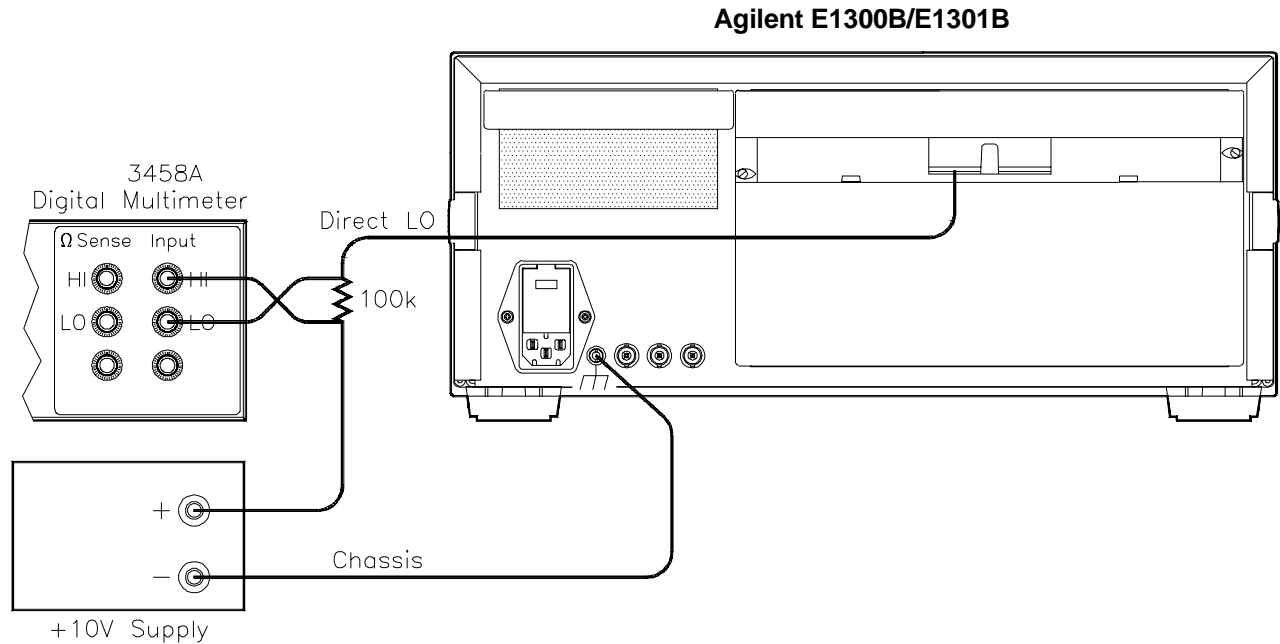

Figure 2-10. Positive LO to Chassis Leakage Connections
- Connect DMM, power supply, and resistor as shown in Figure 2-10